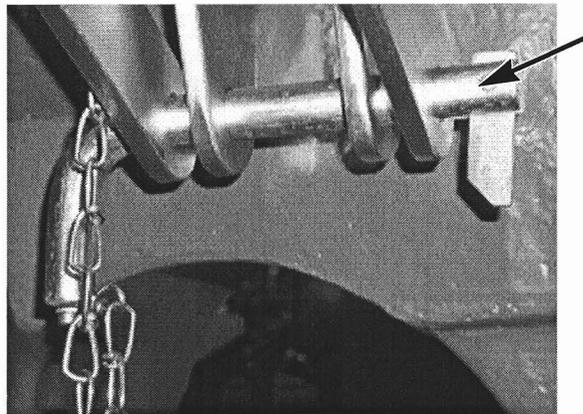

Fig. 61 Securing bolt on rotor lock bolt
- Remove the securing bolt from the mechanism of the rotor lock bolt, see Fig.61